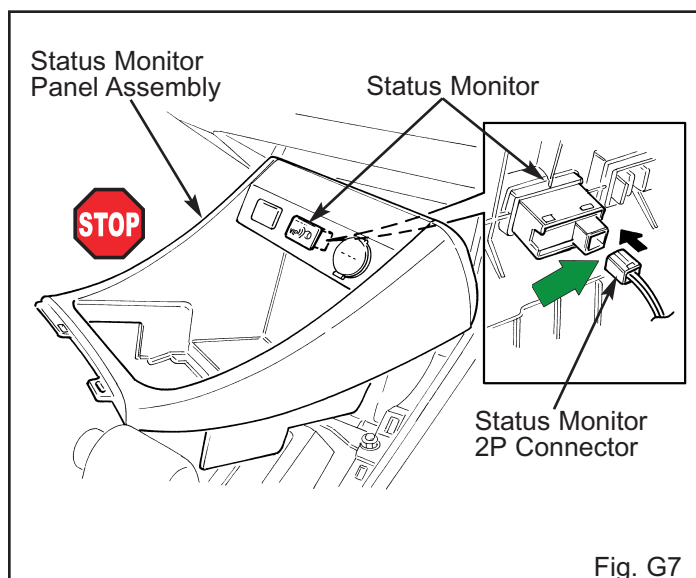

Fig. G7
7. Plug in the V3 harness' white 2P connector to the status monitor. (Fig. G7)